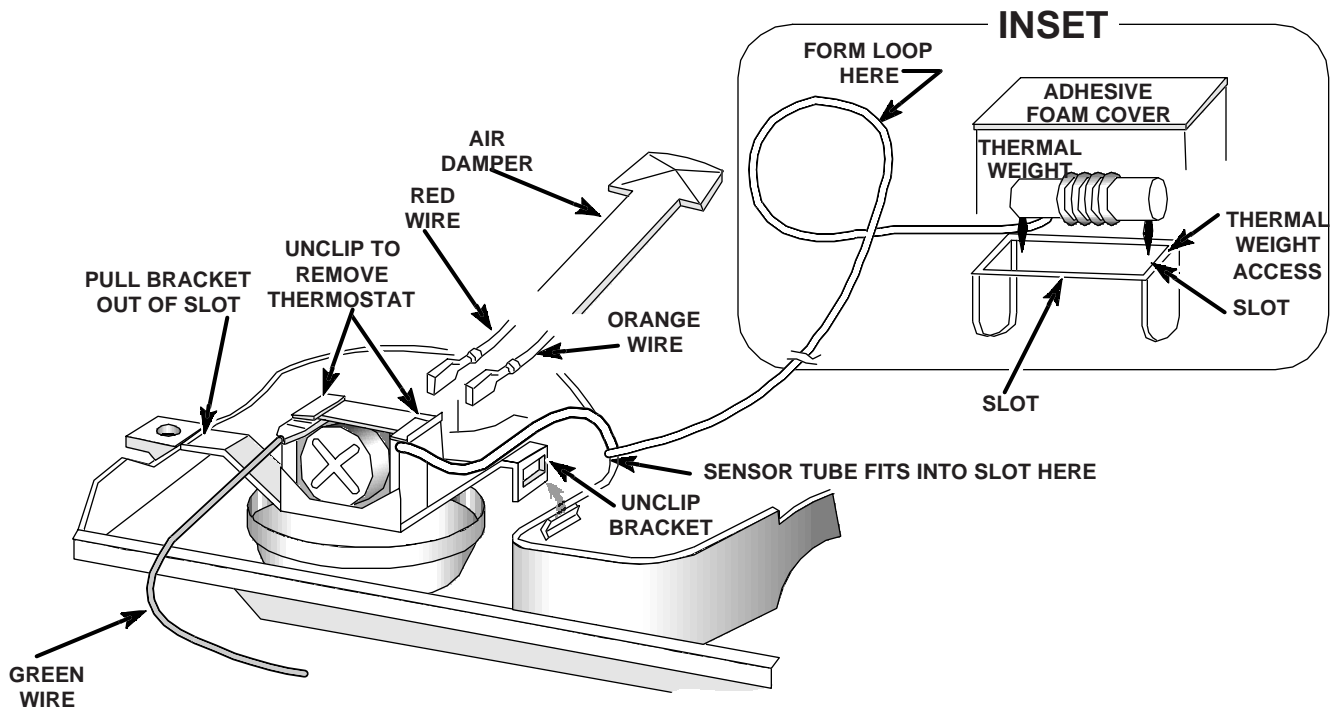

Fig. 71
1. Disconnect the Red, Orange and Green wires from the thermostat terminals. (Fig. 71)
3. Position the air damper out of the way, and carefully peel off and set aside the adhesive foam cover from the thermal weight sensor tube access hole in the rear of the control box. (Fig. 71, Inset)